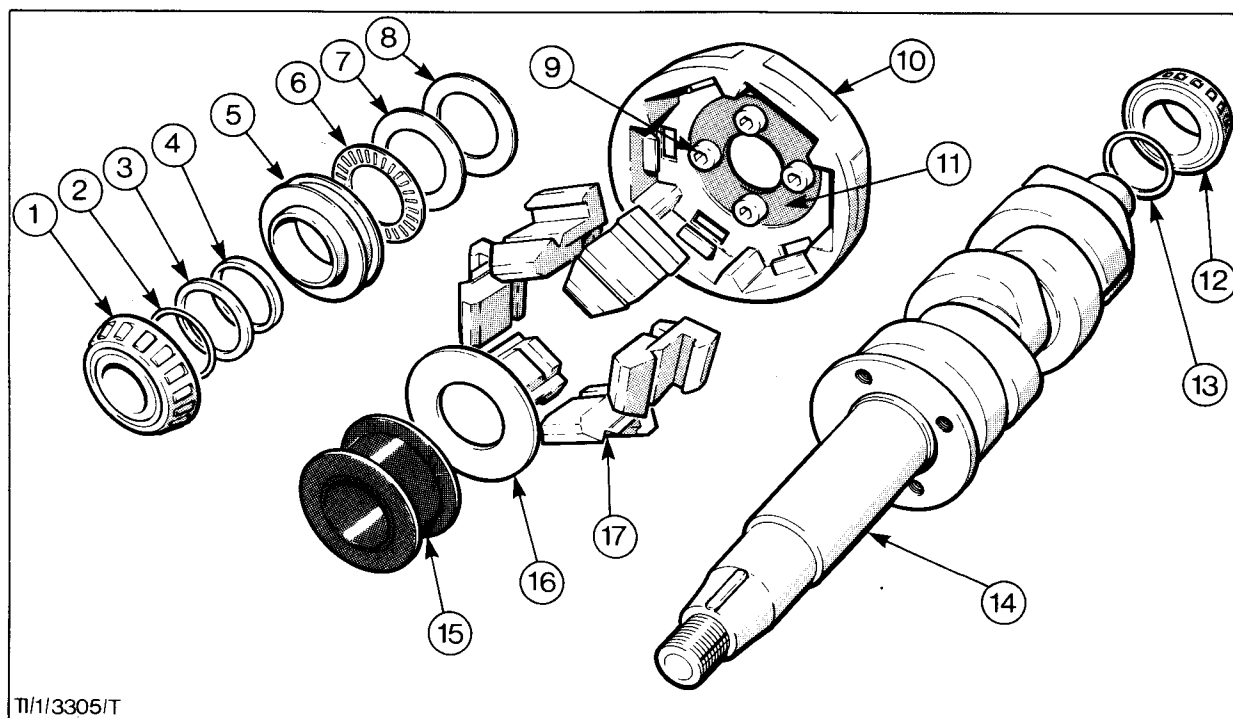

Fig. 44 - Camshaft and Governor Assembly Exploded (Dover)
26. Slide the stop disc (where fitted) spacer ring, thrust collar and outer thrust race and two thrust washers off the camshaft (Fig. 44).